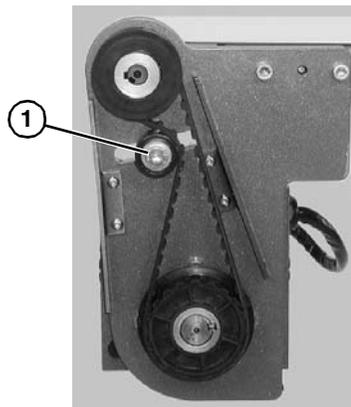

Figure 26
2. Loosen tensioner (Figure 26, item 1).